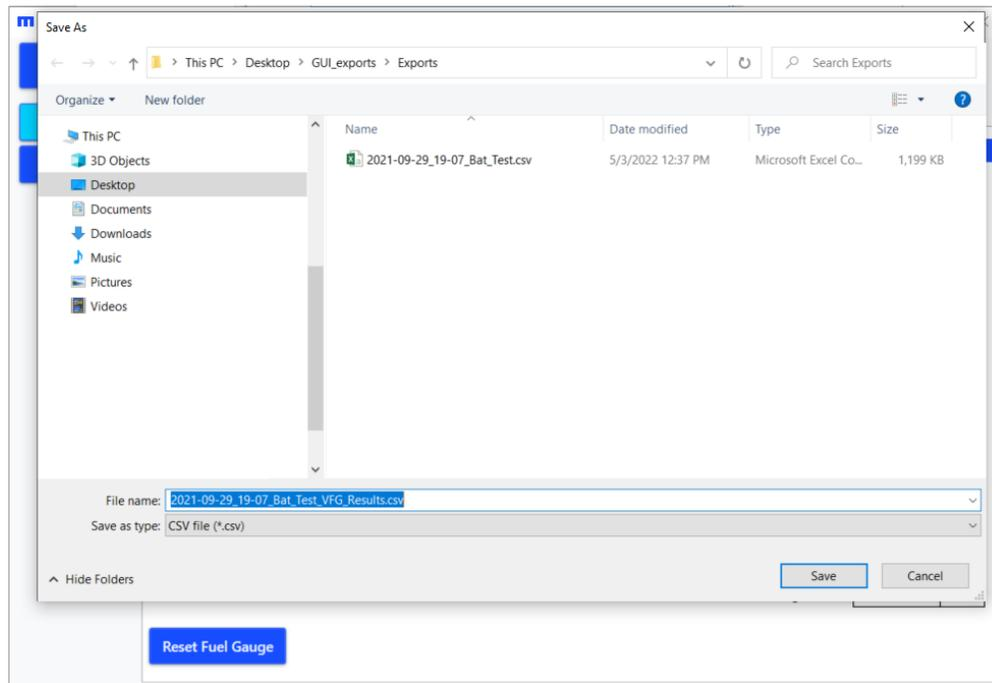

Figure 61: Virtual Fuel Gauge (Store Results)
6. Once a valid file is selected, click “Generate” to start a test. A window should appear to allow the user to select where the test results are stored (see Figure 61).